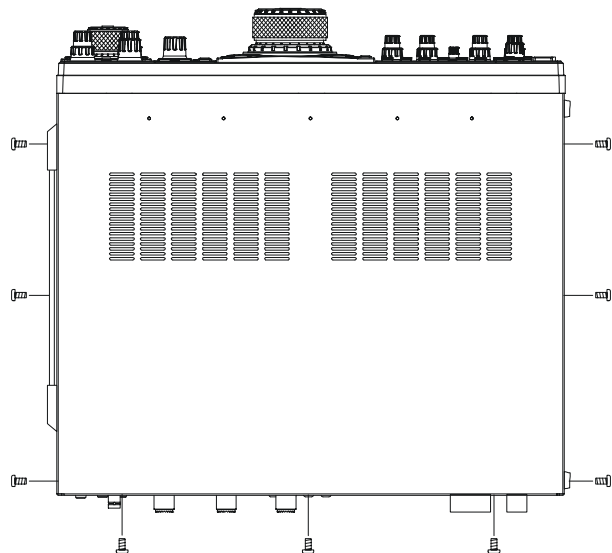

FIGURE 1
4. Referring to Figure 1, remove the three screws from each side of the transceiver, and three screws from the top edge of the rear panel. Slide the top cover toward the rear about 1/2 inch (1 cm), then remove the top cover.